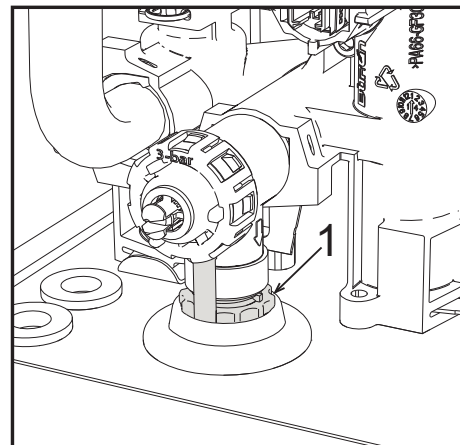

fig. 17- Safety valve with drain faucet
To drain the system, turn the ring (ref. 1 - fig. 17) counter-clockwise to open the faucet. Do not use any tools; use hands only.